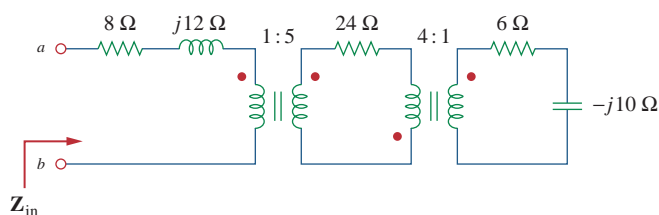

Figure 13.115
- 13.50** Calculate the input impedance for the network in Fig. 13.115.